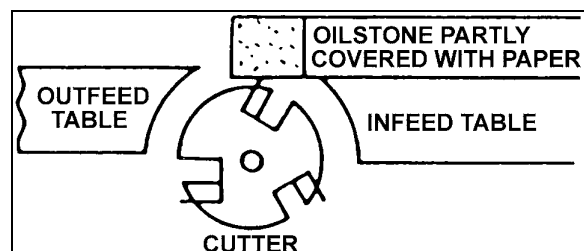

Figure 41
3. To protect the infeed table from scratches, partially cover the sharpening stone with paper (Figure 41).